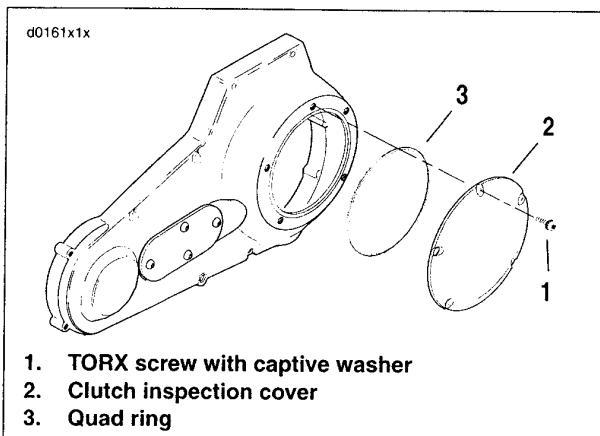

Figure 1-25. Clutch Cover
- 3. See Figure 1-25. Remove five TORX screws with captive washers (1) to detach clutch inspection cover (2) from primary chaincase cover.
- 4. Remove the quad ring (3) from the groove in the chaincase cover. Wipe oil from quad ring, groove in chaincase cover and mounting surface.